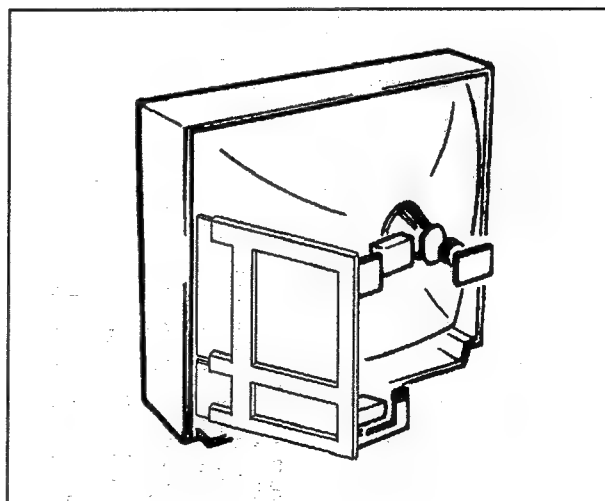

Fig. 3
1. As shown in Fig.3, set the removed chassis upright.